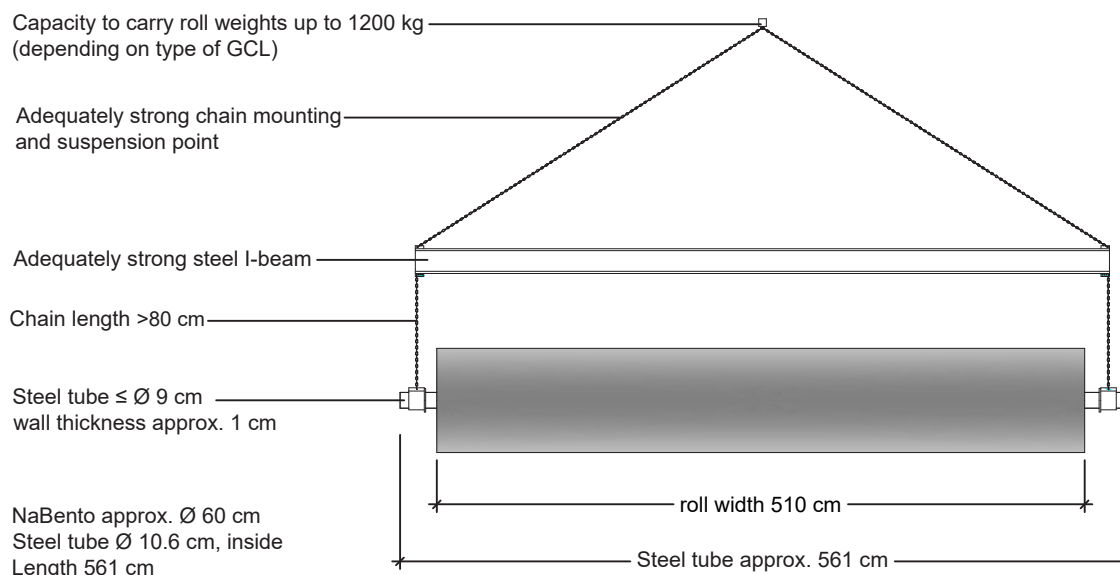

Fig. 1: Lifting traverse
- Site equipment with lifting beam or with load-bearing tube, pushed into the roll core (Fig. 1).
NaBento rolls must be transported to the respective work section without damage by means of site equipment with a lifting beam (see Fig. 1) or equipment with a roll-off device. The packaging film of the rolls must only be removed immediately before installation of the material.